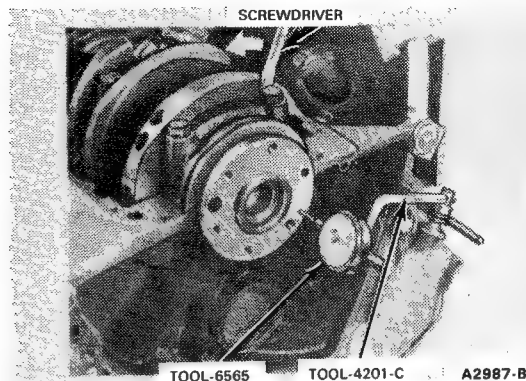

FIG. 11 Checking Crankshaft End Play
2. Install a dial indicator so that the contact point rests against the crankshaft flange and the indicator axis parallel to the crankshaft axis (Fig. 11).